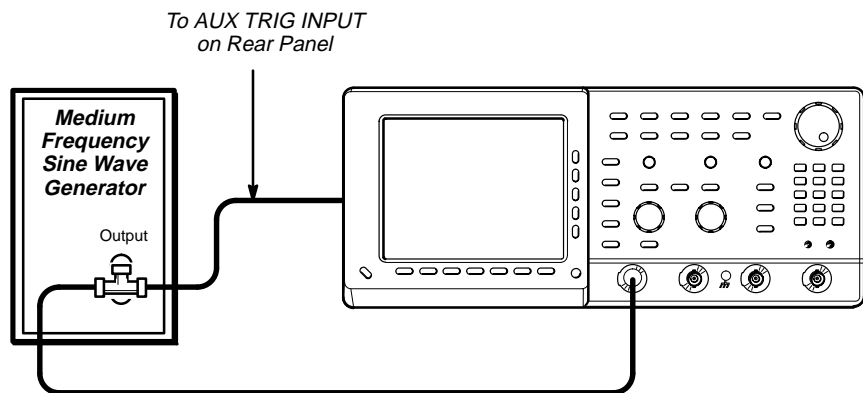

Figure 1-18: Initial Test Hookup
- Connect the other output of the T connector through a second 50 Ω precision coaxial cable to the **AUX TRIG INPUT** at the rear panel. See Figure 1-18.